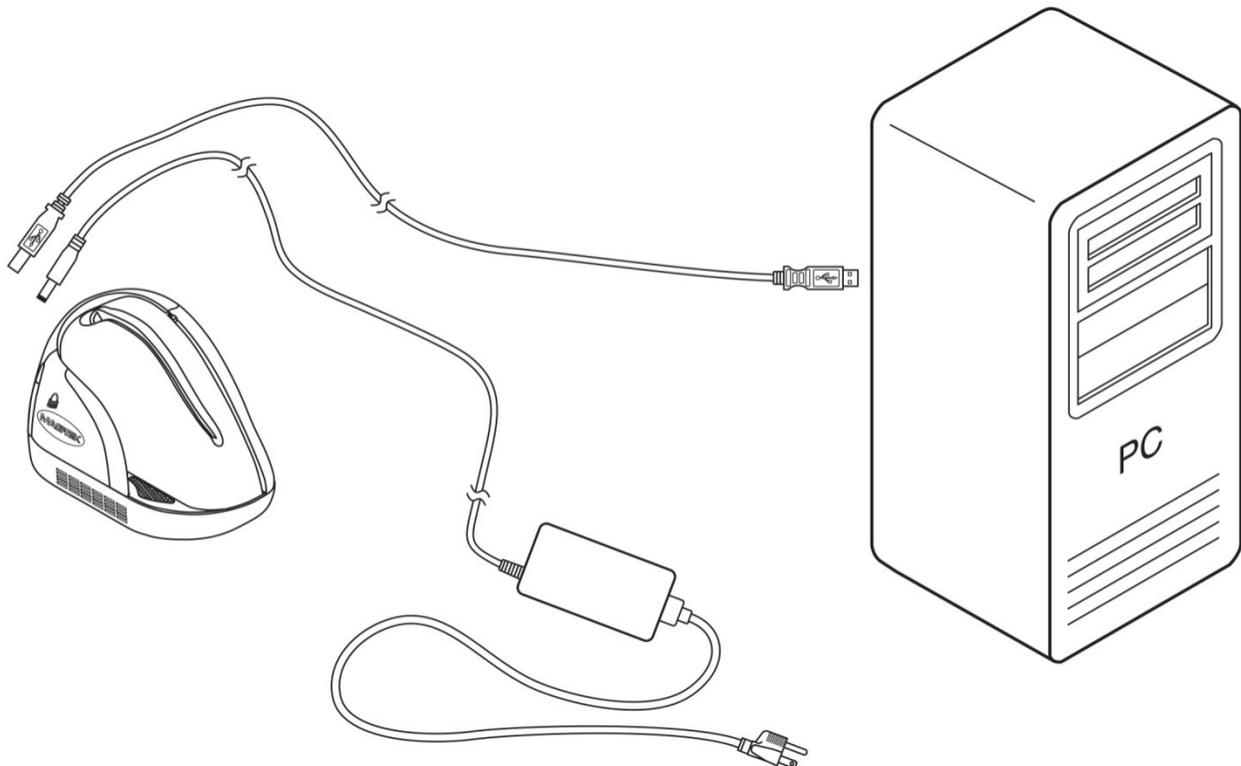

Figure 2-2. MDX Cabling
1. Connect the USB plug to the MDX as shown in Figures 2-2 and 2-3.